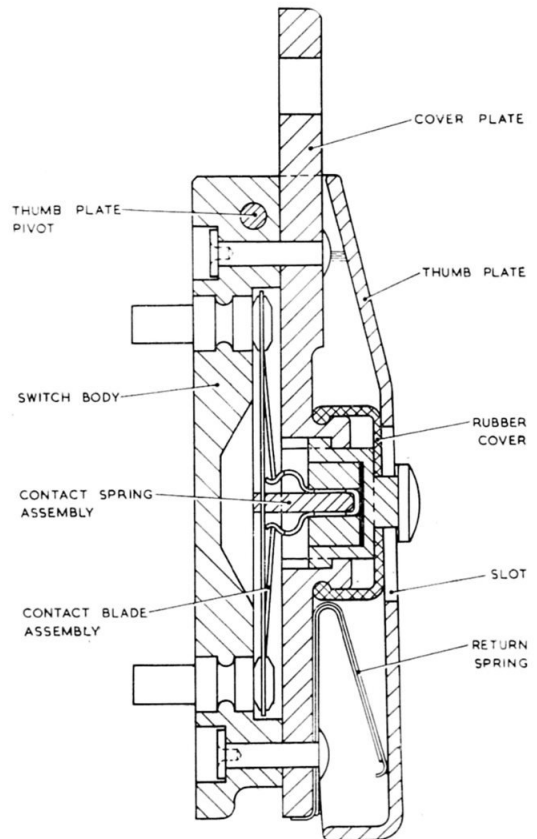

Fig. 1. Auto-pilot cut-out switch, Type ACM18230
2. The switch (*fig. 1*) is of moulded construction and comprises a contact body, cover plate and an operating thumb plate. The moulded cover plate is riveted to the contact body by two rivets, one of which also secures the leafed return spring. The thumb plate fits over the front of the switch and is pivoted on an axis-pin which passes through the contact body.